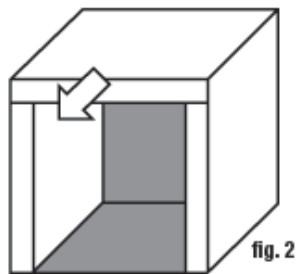

fig. 2
- Install the TUFCOTE® TBK Faced Foam to the inside of the housing and over the vibration control tape (fig. 2).